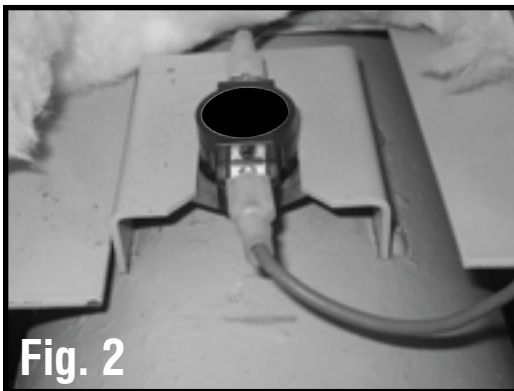

Fig. 2
2. 250°F Snap Disc is located behind the cover "Service Cover A" (Fig. 2).